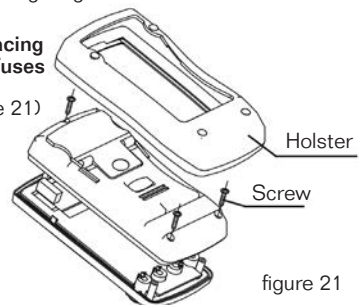

figure 21
B. Replacing the Fuses (see figure 21)